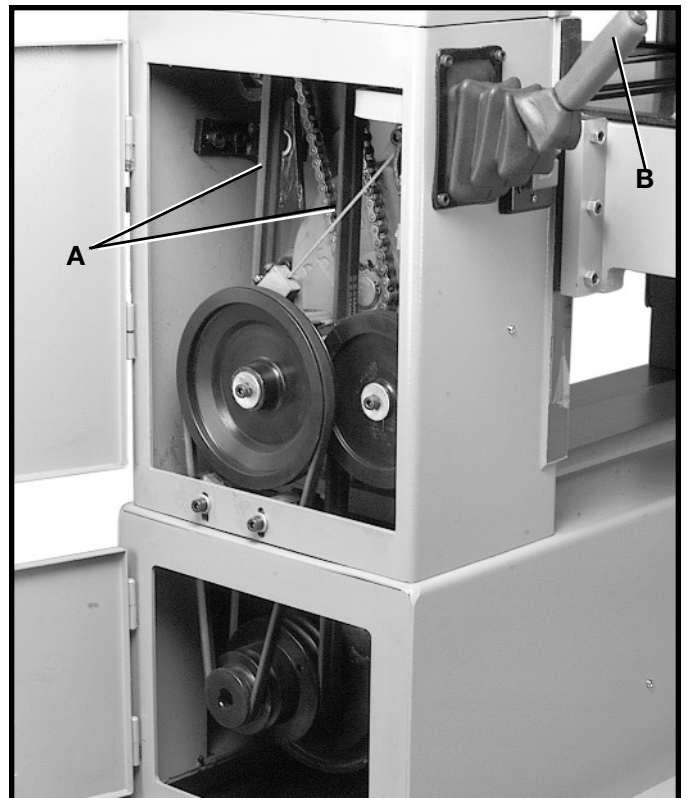

Fig. 28
Proper belt tension is when there is approximately  $\frac{1}{4}$ " deflection, using light finger pressure on the drive belts (A) Fig. 28, midway between pulleys. If an adjustment is necessary, proceed as follows:
- Disengage feed roller lever (B) Fig. 28.